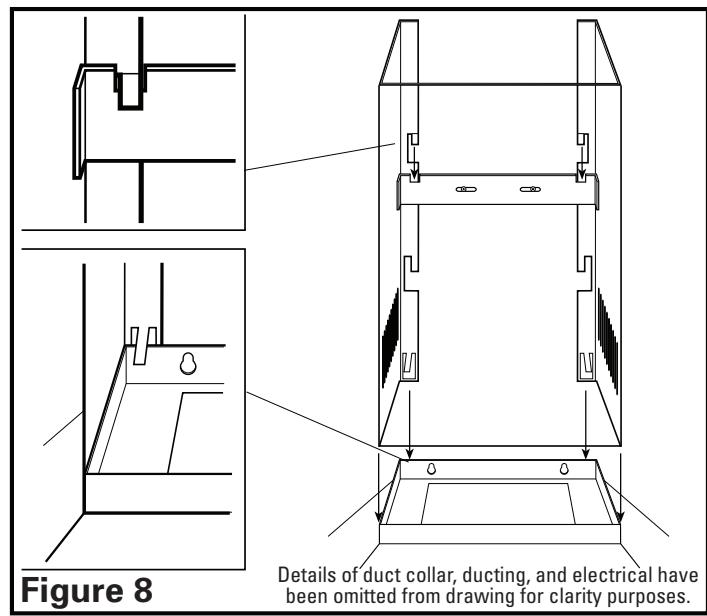

Figure 8
- Slide chimney in place so top tabs of the chimney are secured in place on the indents of the vertical chimney bracket and the backside of the chimney fits between the hood and the wall with the bottom tabs overlapping the back lip of the hood (**Figure 8**).